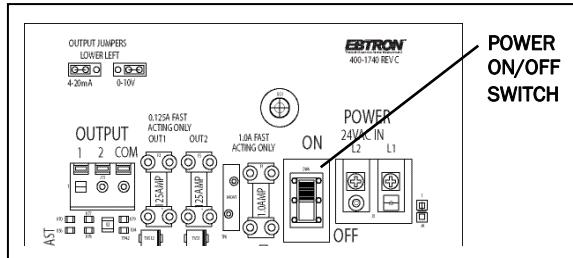

FIGURE 1. HTx104 MAIN CIRCUIT BOARD
4. Set the POWER ON/OFF switch on the HTx104 main circuit board (Figure 1) to the OFF position.